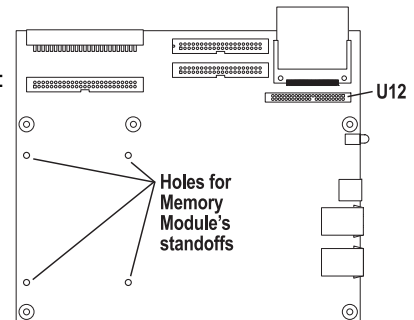

Figure H-1
- b. the four holes on the ASC (**Fig. H-1**).